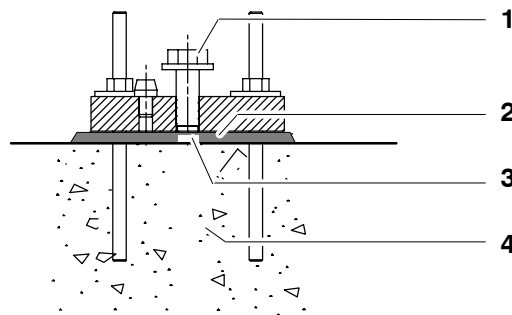

Fig. 55 Leveling compound
If the bedplates are not fully seated on the concrete foundation (Fig. 55/4), this can result in distortion or loosening of the mounting base. Fill any gaps with leveling compound (2). To do this, lift the manipulator again and apply sufficient leveling compound to the underside of the bedplates. Then set the manipulator down again and align it, removing any excess leveling compound. Allow the leveling compound to cure for about 3 hours. The curing time is longer at temperatures below 293 K (+20 °C).